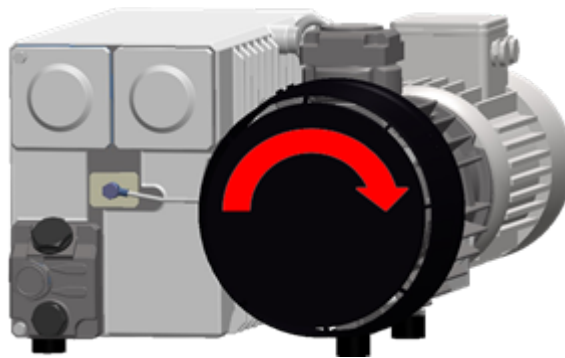

Figure 3: Direction of Rotation of the Vacuum Pump
4. Check the correct direction of rotation of the three-phase model pump. See *Figure 3: Direction of Rotation of the Vacuum Pump* on page 23.